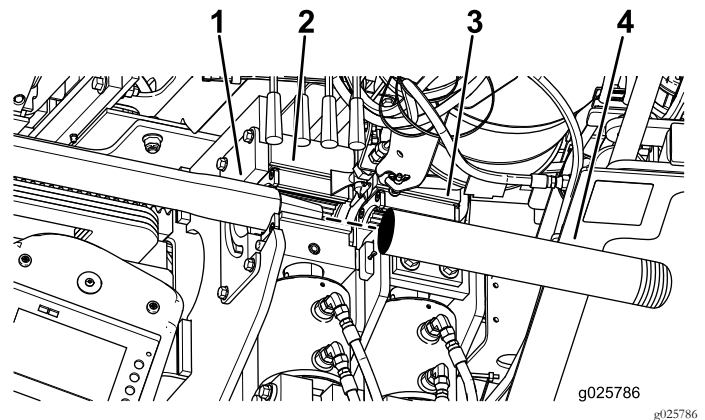

Figure 30
4. Pull the drill pipe and lead bar back through the pipe guide and into the wrenches, aligning the thickened upper joint of the lead bar with the upper wrench (Figure 30).